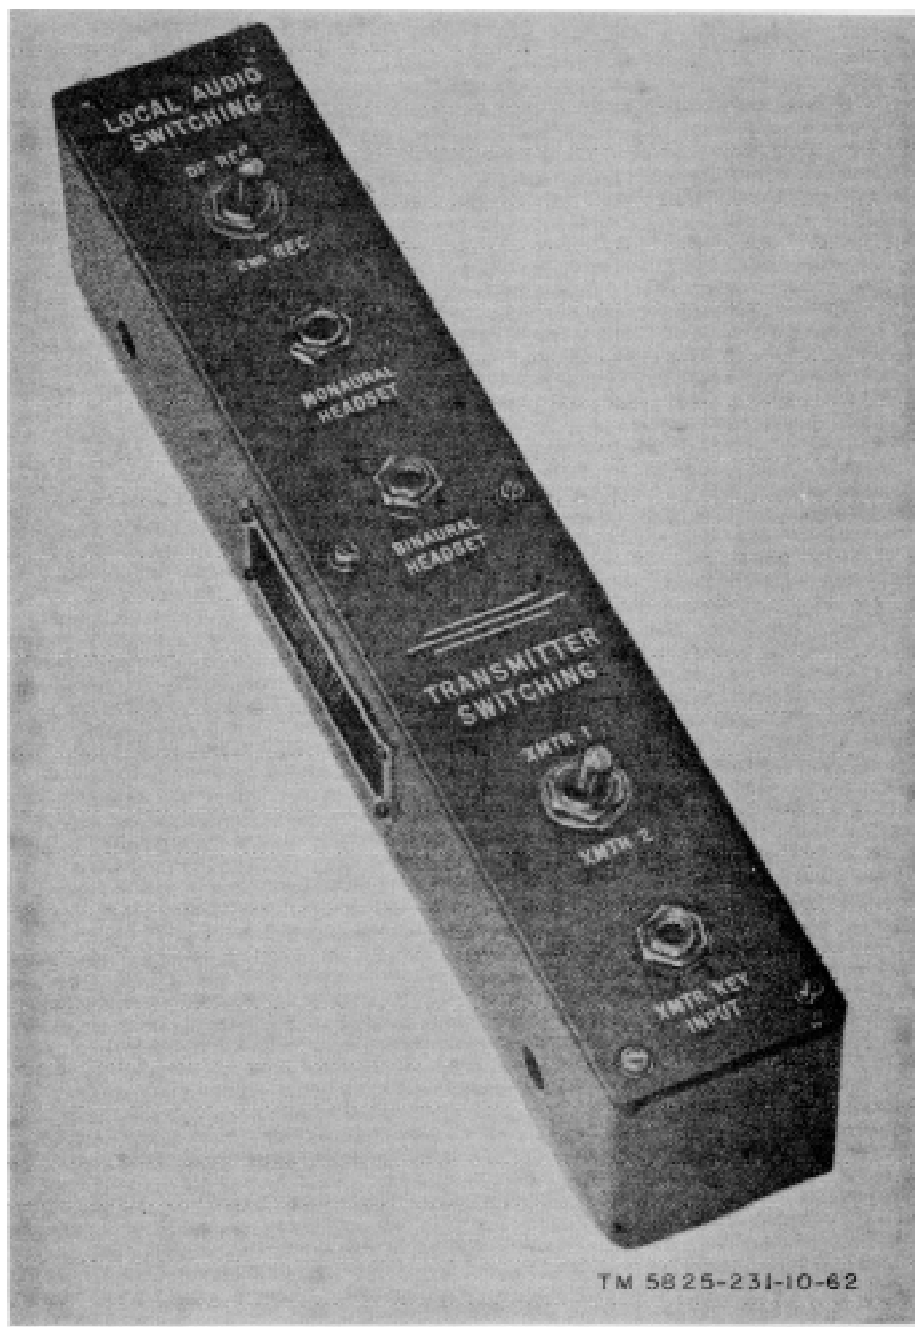

Figure 1-16. Distribution Box, Audio J-2871/TRD-23A.
b. Figure 1-16 shows the J-2871/TRD-23A. The other models are electrically identical and similar in appearance; however, they are not interchangeable because of variations in mounting and panel markings.